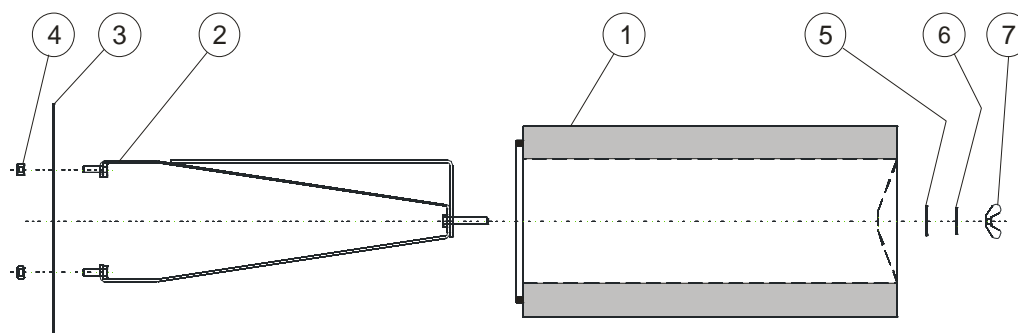

FIG. 22 SCHEME OF FILTERING CARTRIDGES FIXING FOR SIZES Z-LINE 4,6,8,9,12
- c) After removing a butterfly nut (Pos. 7, Fig. 22,23) and washers (Pos. 5 and 6 Fig. 22,23) move with filtering cartridge to release sealing from partition wall of the device (Pos. 3, Fig. 22,23), onto which the cartridges are sealed.
- e) Shift the filtering cartridge on the cartridge holder (Pos. 2, Fig. 22,23) towards yourself and pull it outside through the inspection hole.
- Push the new cartridge onto the holder so deep the cartridge is supported by partition wall of the device (pos. 3, Fig. 22,23).
- Put rubber sealing ring on the holder thread (pos. 5, Fig. 22,23), metal washer (pos. 6, Fig. 22,23) and nut at the end (pos. 7, Fig. 22,23) and tighten firmly.